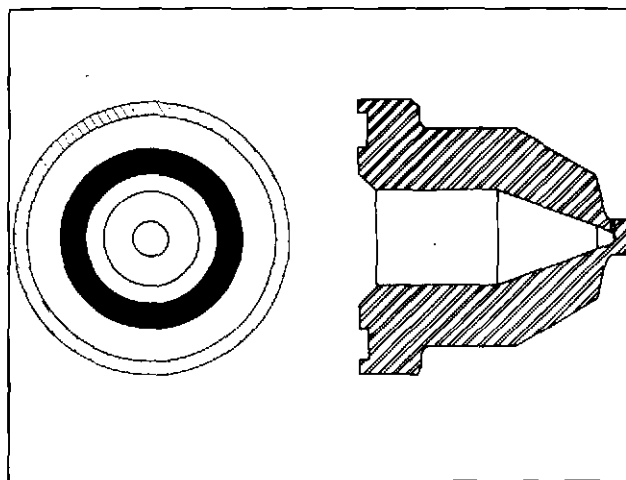

Fig. 3-13, (F60161). Cup surface at barrel contact area
- a. For mutilation, check in the area (black area) as shown in Fig. 3-13.